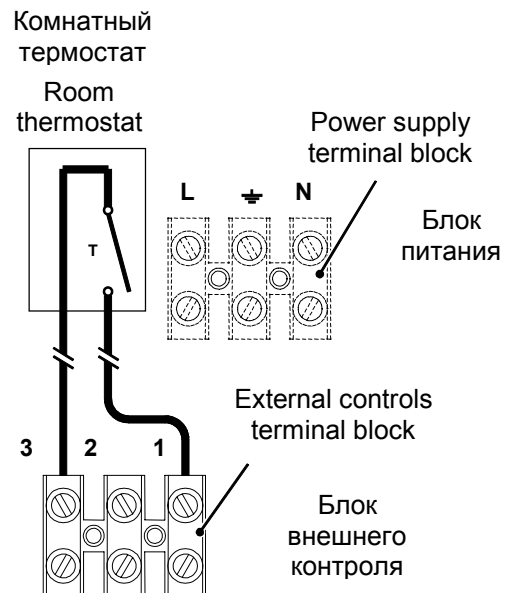

Fig. 5.15
- 7 Connect the room thermostat between terminals 1 and 3 as shown in Fig. 5.15.